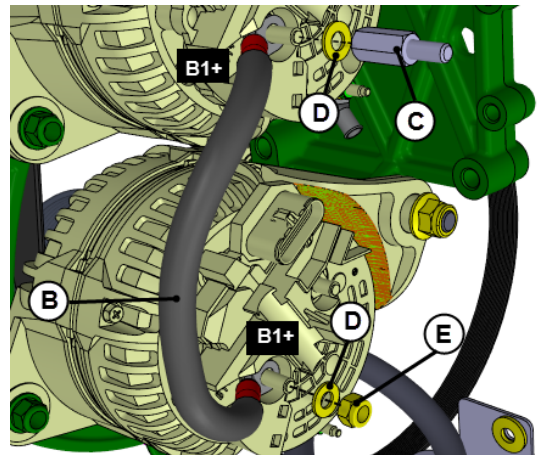

FIGURE 18
25. Connect jumper cable **B** to **B1+** stud terminal of the upper alternator and the lower alternator using hardware shown on FIGURE 18.